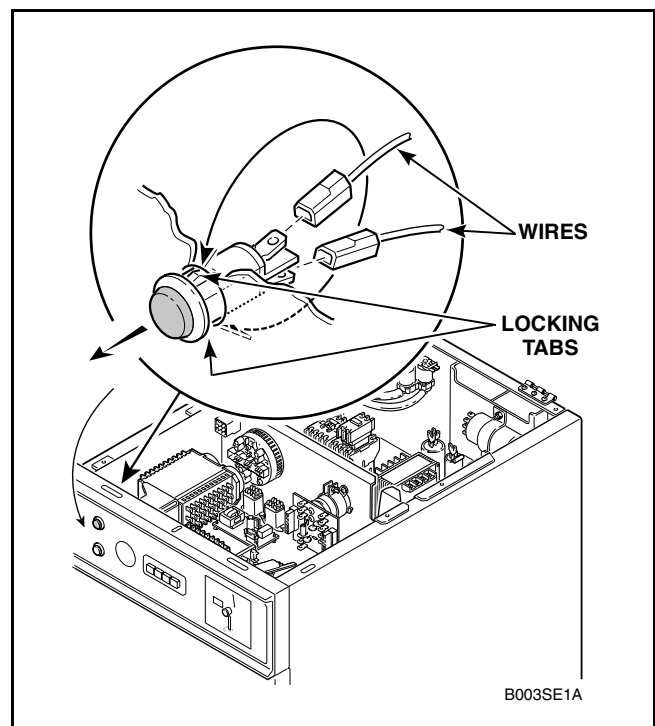

Figure 3
- d. Press in on locking tabs and push lights out through front of control panel, refer to *Figure 3*.